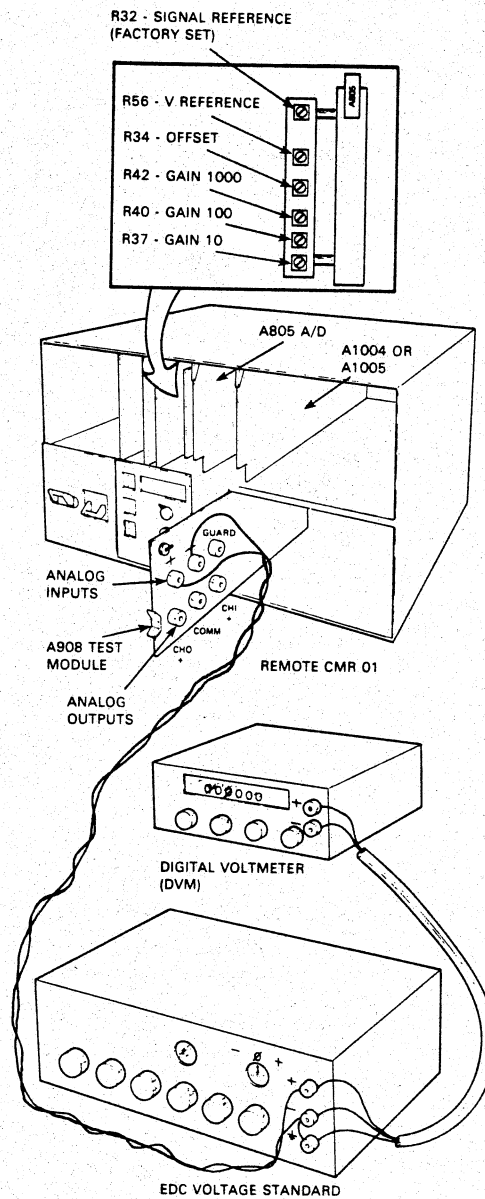

Figure 3-14 A805 Test Configuration
See Figure 3-14.
- Same as test configuration (see Figure 3-14).